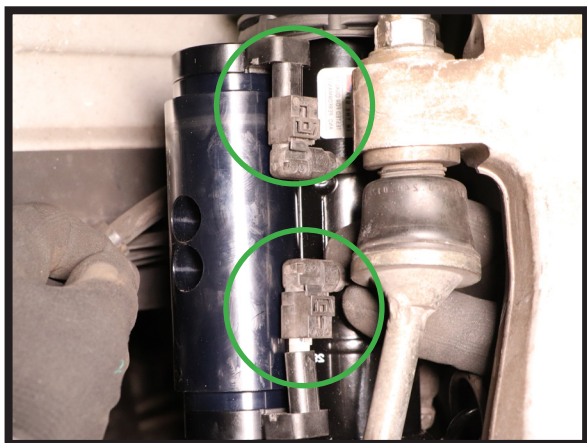

FIGURE 28
9. RECONNECT AND SECURE STRUT DAMPING COIL WIRES. (FIGURES 28, 29)